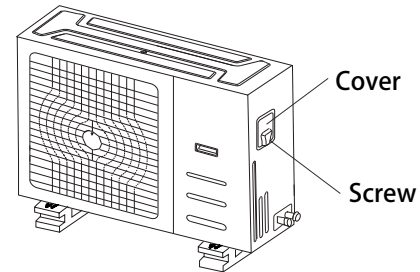

Fig. 10.1
- Remove the electric cover of the outdoor unit. If there is no cover on the outdoor unit, disassemble the bolts from the maintenance board and remove the protection board. (See Fig. 10.1)